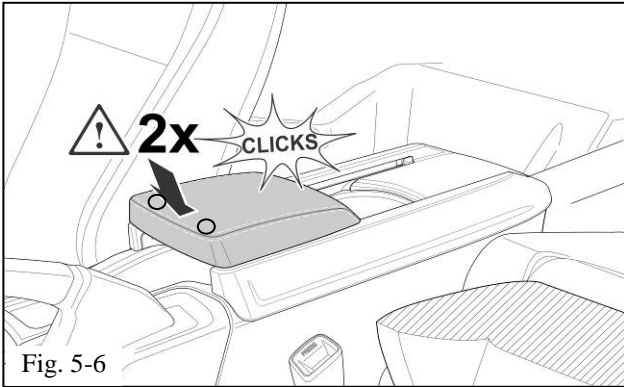
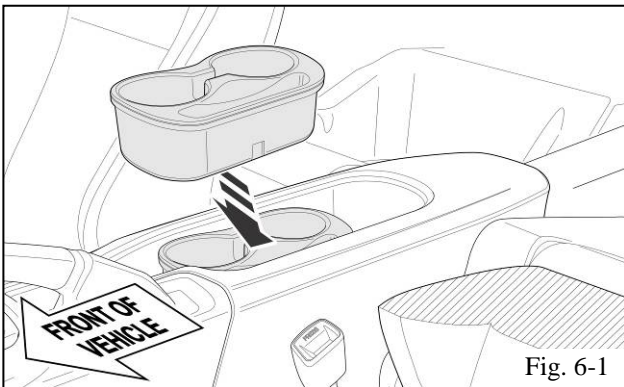

Fig. 5-6
Fig. 6-1
- (3) Push down on the front of the armrest top to engage the front 2x barbed tabs (Fig. 5-6).
- (4) Confirm that all 4x barbed tabs have properly engaged.
- (c) Reinstall the OE center console cup holder (Fig. 6-1).